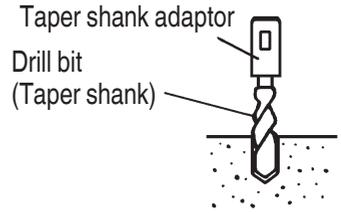
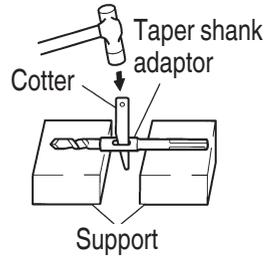

Fig. 11
Fig. 12
- (1) Install drill bit with taper shank in the taper shank adaptor. (Fig. 11)
- (2) Turn the power on and drill a base hole.
- (3) After cleaning out dust with a syringe, attach the plug to the anchor tip and drive in the anchor with plug to the anchor tip and drive in the anchor with a manual hammer.
- (4) To remove the drill bit with taper shank, insert a cotter into the slot of the taper shank adaptor, place supports under the Rotary Hammer and tap the cotter with a manual hammer. (Fig. 12)